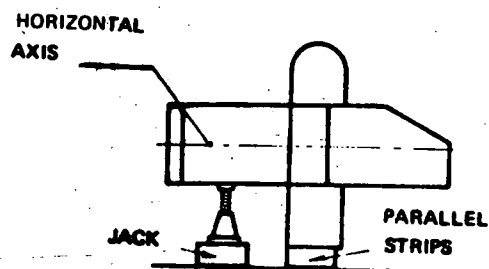

Fig. 4
3. For pieces with no reference surface at all, use parallel strips and/or jacks as supports (Fig. 4).